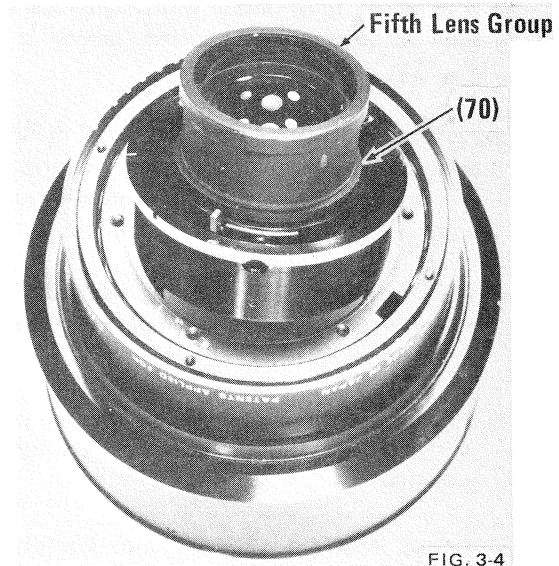

FIG. 3-4
- c) Screw fifth lens group into rear diaphragm housing (70) and lift the assembly from the inner helicoid. Fig. 3-4.
- a) Remove fifth lens group and any spacers found between the lens group and the rear diaphragm housing (70). (Usually two or three of 0.12mm thickness.) Fig. 3-4.